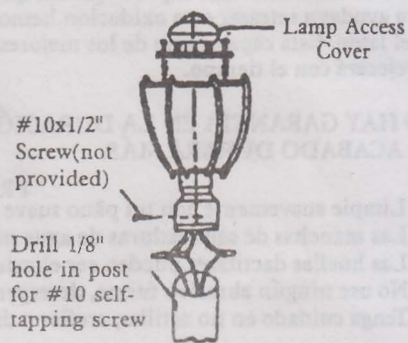

FIG.7
4. Secure fixture to post with #10x1/2" self-tapping screw. (not provided) (FIG.7)